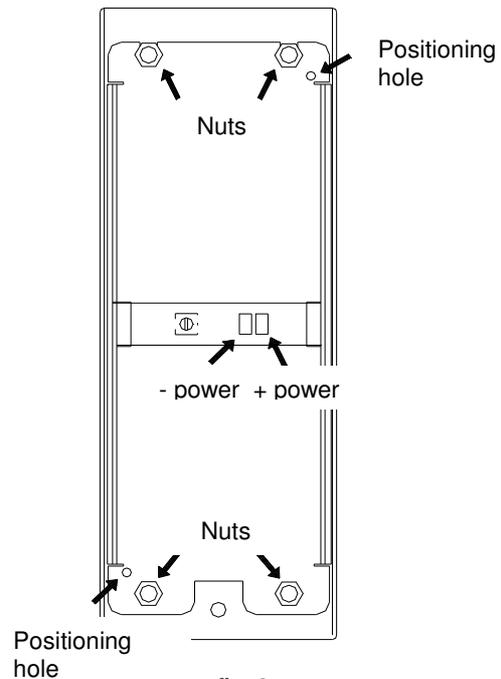

fig. 4
3. Unscrew 4 M3 nuts and tighten up push plate to the front call module. See fig 4. Note: The washers are under the nuts.
7. Put on a push plate for plexiglas. Please remember to proper place plexiglas stripes according to positioning holes in push plate. Hole in bottom push plate should be find above mounting hole screw. Hole in bottom push plate should be found above mounting hole screw. Location positioning holes – fig 4.